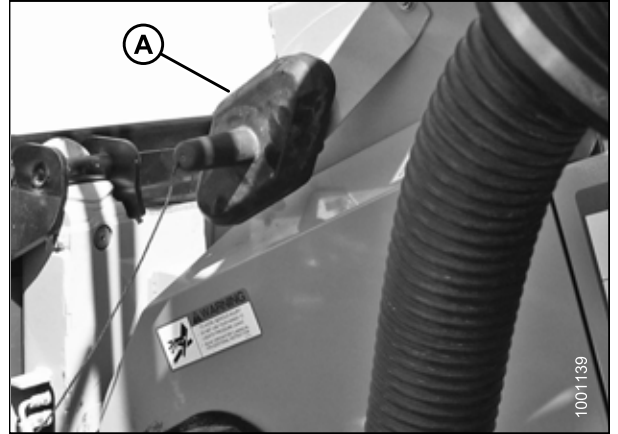

Figure 10.53: Receptacle Cover
13. Place float module receptacle cover (A) onto the combine receptacle as shown in Figure 10.53, page 411.